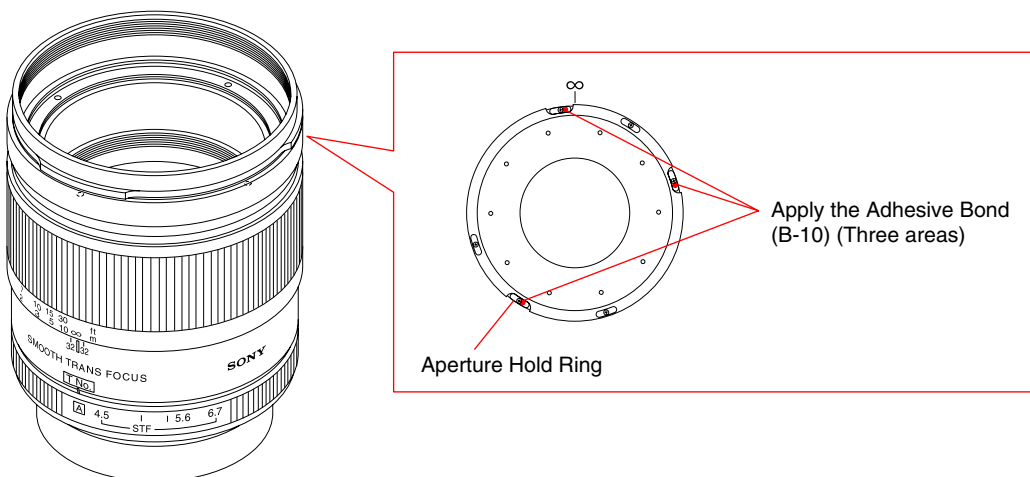

Fig.4-2-13
- 6) After the adjustment is completed, apply the adhesive bond (B-10) to the head of the three screws as shown in the Fig.4-2-13.